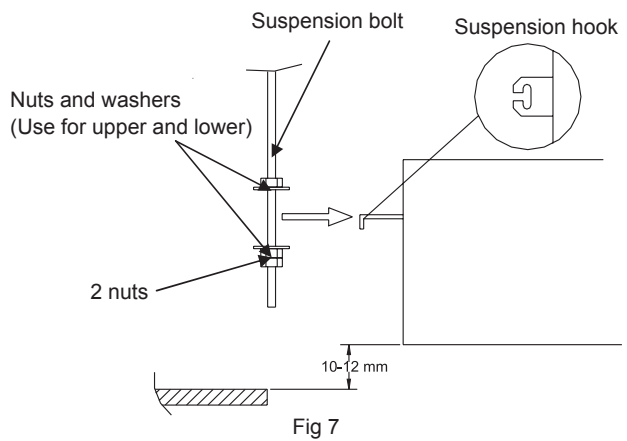

Fig 7
- In order to prevent a possible looseness, it is recommended to use 3 hexagonal nuts (Prepared on site) and 2 washers (accessory) for each suspension bolt. Pay attention that 2 nuts will be used in the lower side.(Fig 7)
- Adjust the distance between the unit and the ceiling bottom to 10~12mm. Tighten all the nuts on the suspending bolts.(Fig 7)